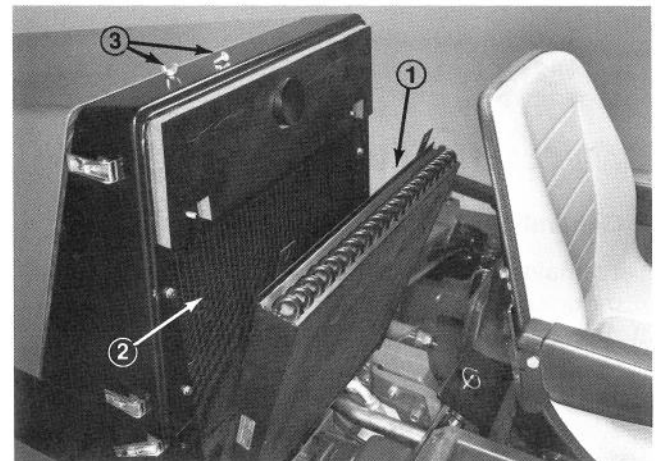

Figure 38
- c. Remove wing nuts securing top of oil cooler to upper radiator support and pivot top of oil cooler away from radiator (Fig. 38).